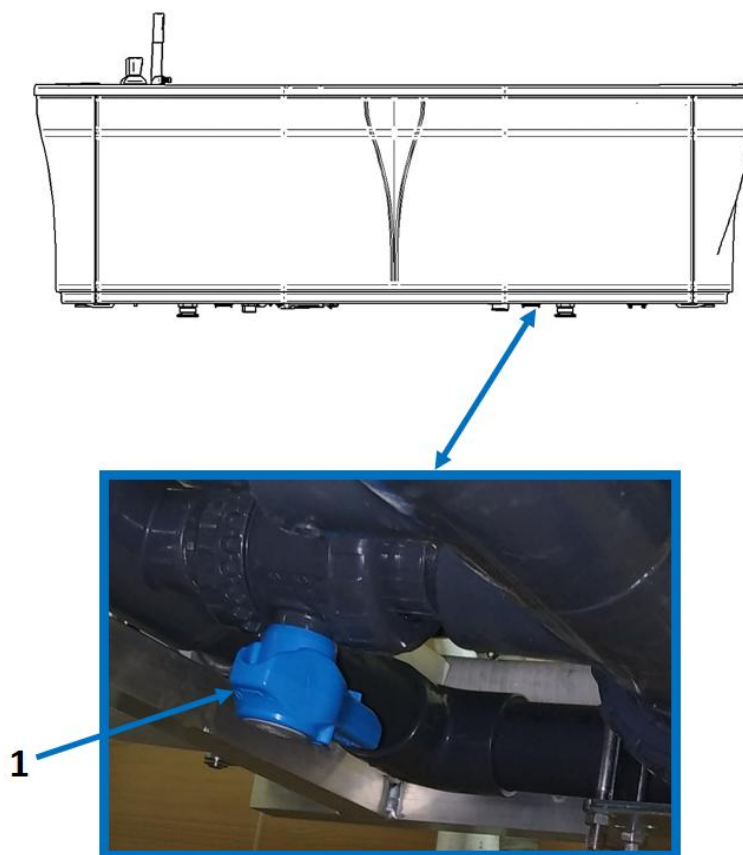

Figure 8 - Location of the manual draining valve
To manually empty the basin, open the ball valve (fig.8 pos.1) located under the bathtub in the water discharge area. Turn the valve lever by 90 degrees until you feel resistance. The valve is highlighted in blue in picture 8 below.